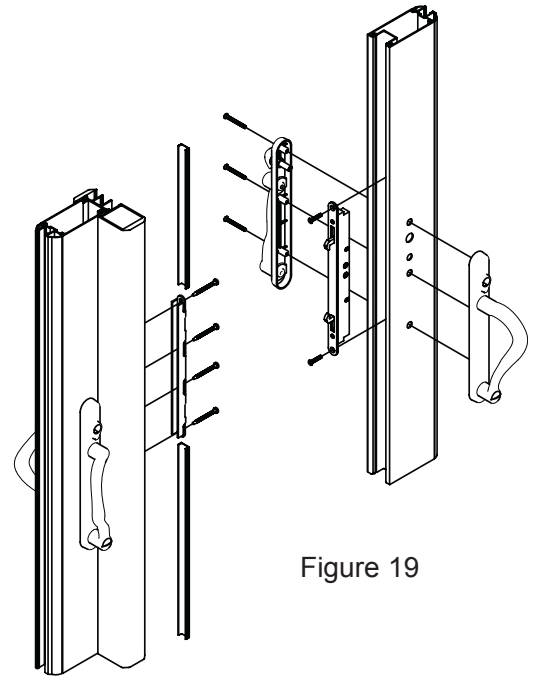

Figure 19
- Attach handles using the three #8-32 x 2 ¼" pan head screws provided. (See Figure 19)
- Install the three remaining #10 x 1 ½" pan head screws. (See Figure 19)